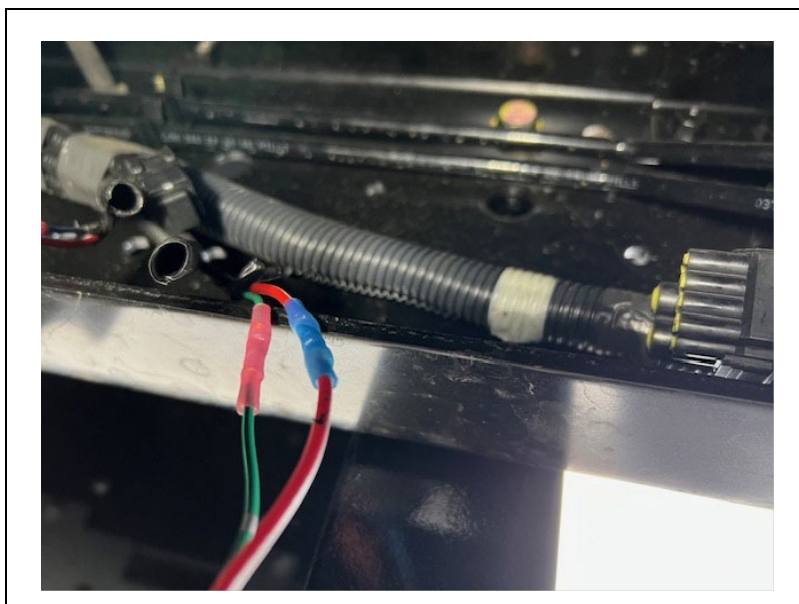

Figure 9
10. Crimp the replacement fuse harness wires onto the vehicle wires stripped in Step 6 (the red connector to the small wire and the blue connector to the large wire). Ensure that all four of the connections are tight and secure. (See Figure 9.)